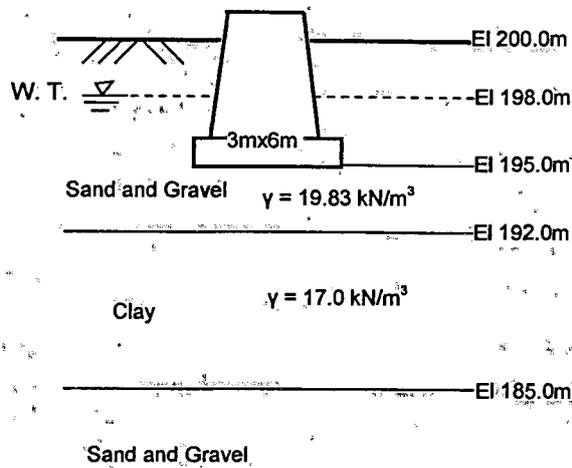

Fig. Q.7
7. A foundation is to be constructed at a site where the soil profile is as shown in Fig. Q.7. The base of the foundation is 3m by 6m and, it exerts a total load of 5400 kN, which includes the weight of the structure, foundation and soil surcharge on the foundation. The initial void ratio and compression index of the compressible clay layer is respectively, 1.38 and 0.68. Determine the (i) average increase of pressure in the clay layer due to the foundation load (ii) average effective vertical pressure in the clay layer before applying the foundation load and (iii) total expected consolidation settlement of the clay layer because of the foundation load. [2+2+2]